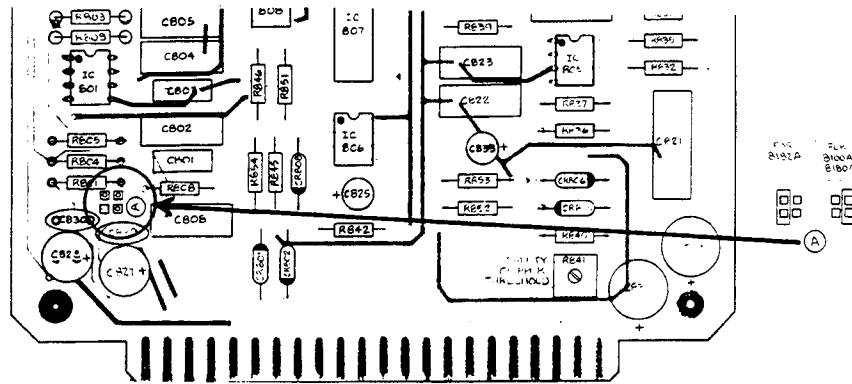

Fig. F-2: CARD #8/#9 EMERGENCY BYPASS JUMPERS
- 3) Remove Cards #8 and #9 from their slots. On each card, move the link on jumper "A" according to Fig. F-2 below. (This rearranges the lowpass filters such that distortion-cancellation is applied to the "emergency" clippers.) Then replace Cards #8 and #9 in their slots.